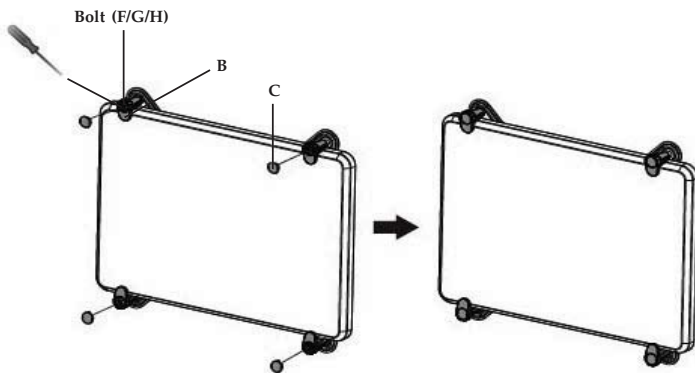

Figure 6
2. Tighten Bolt (F/G/H) finger tight using a Phillips screwdriver to secure Support (B) to the monitor, see Figure 6.
3. Install Plastic Cap (C) onto Support (B), see Figure 6.